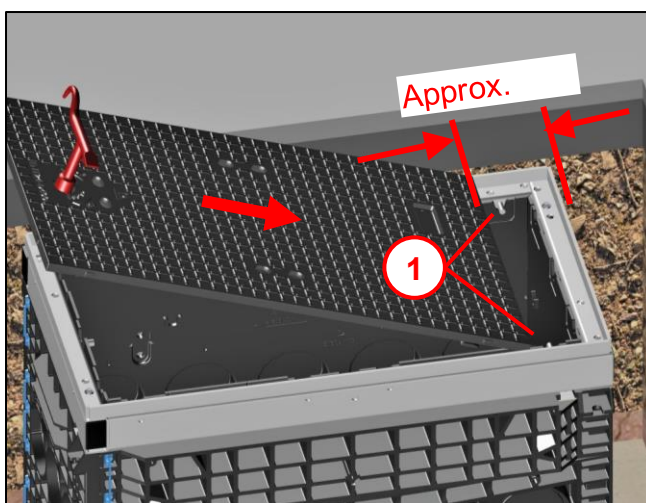

Fig. 27
- Use a suitable lifting tool (1) to lift the manhole cover (2) and place it on the steel frame (3).
- Note the next step in Fig. 27 for exactly how to place the cover!